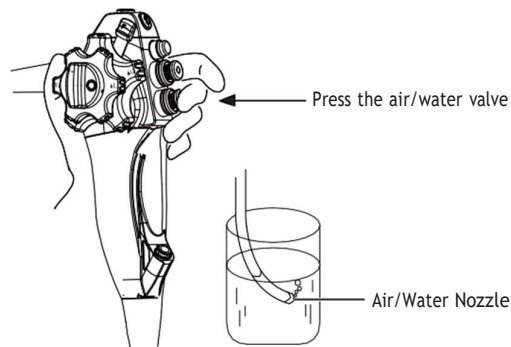

Figure 3-5 Air Feeding Inspection
3. Cover the air/water valve with a finger to feed air. Ensure that bubbles continuously come out from the air/water nozzle, as shown in Figure 3-5. Refer to the relevant endoscope user manual for details.